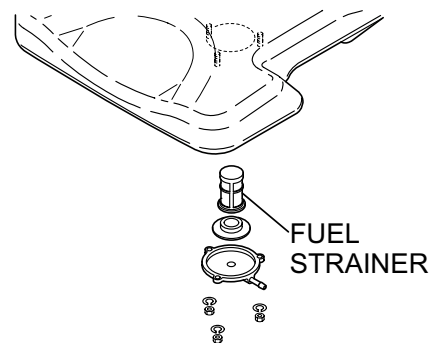

Figure 15. Fuel Strainer
- Inspect and clean fuel strainer (Figure 15). Replace strainer if necessary.